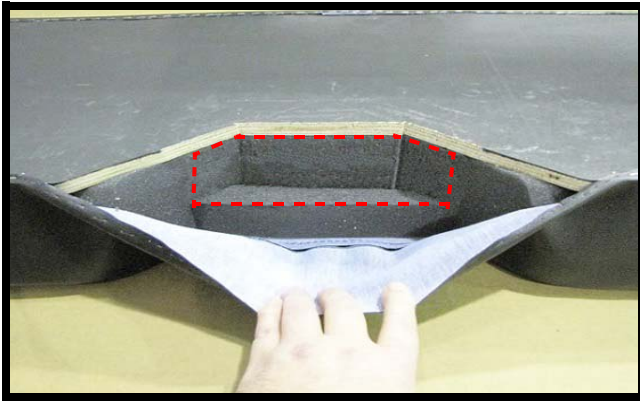

FIGURE 11
14. Use a utility knife to cut in along the horizontal line made in Step 13 and down along the cut lines made with the saber saw in Step 12. These two cuts need to intersect to remove the section of foam. See Figure 11.